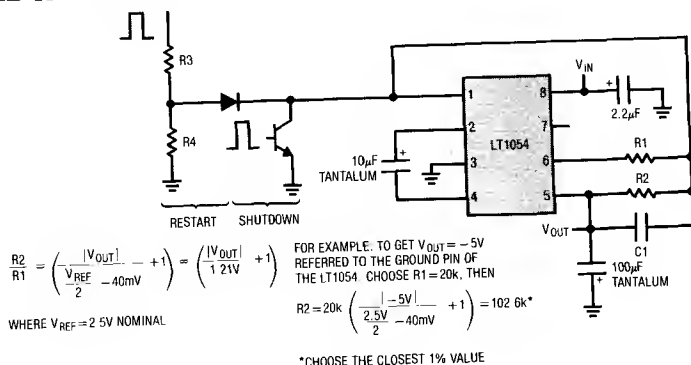

Figure 5
**Feedback/Shutdown (Pin 1):** This pin has two functions. Pulling Pin 1 below the shutdown threshold ( $\approx 0.45\text{V}$ ) puts the device into shutdown. In shutdown, the reference/regulator is turned off and switching stops. The switches are set such that both  $C_{IN}$  and  $C_{OUT}$  are discharged through the output load. Quiescent current in shutdown drops to approximately  $100\mu\text{A}$  (see typical curves). Any open-collector gate can be used to put the LT1054 into shutdown. For normal (unregulated) operation the device will start back up when the external gate is shut off. In LT1054 circuits that use the regulation feature, the external resistor divider can provide enough pull-down to keep the device in shutdown until the output capacitor ( $C_{OUT}$ ) has fully discharged. For most applications where the LT1054 would be run intermittently, this does not present a problem because the discharge time of the output capacitor will be short compared to the off time of the device. In applications where the device has to start-up before the output capacitor ( $C_{OUT}$ ) has fully discharged, a restart pulse must be applied to Pin 1 of the LT1054. Using the circuit of Figure 5, the restart signal can be either a pulse ( $t_p > 100\mu\text{s}$ ) or a logic high. Diode coupling the restart signal into Pin 1 will allow the output voltage to come up and regulate without overshoot. The resistor divider  $R_3/R_4$  in Figure 5 should be chosen to provide a signal level at Pin 1 of  $0.7\text{V}$ – $1.1\text{V}$ .
The error amplifier of the LT1054 serves the drive to the PNP switch to control the voltage across the input capacitor ( $C_{IN}$ ), which in turn will determine the output voltage. Using the reference and error amplifier of the LT1054, an external resistive divider is all that is needed to set the regulated output voltage. Figure 5 shows the basic regulator configuration and the formula for calculating the appropriate resistor values.  $R_2$  should be chosen to be  $20\text{k}\Omega$  or greater because the reference output current is limited
$$\frac{R2}{R1} = \left( \frac{|V_{OUT}|}{\frac{V_{REF}}{2} - 40mV} + 1 \right) = \left( \frac{|V_{OUT}|}{1.21V} + 1 \right) \quad \left[ \text{REFER TO FIGURE 5} \right]$$